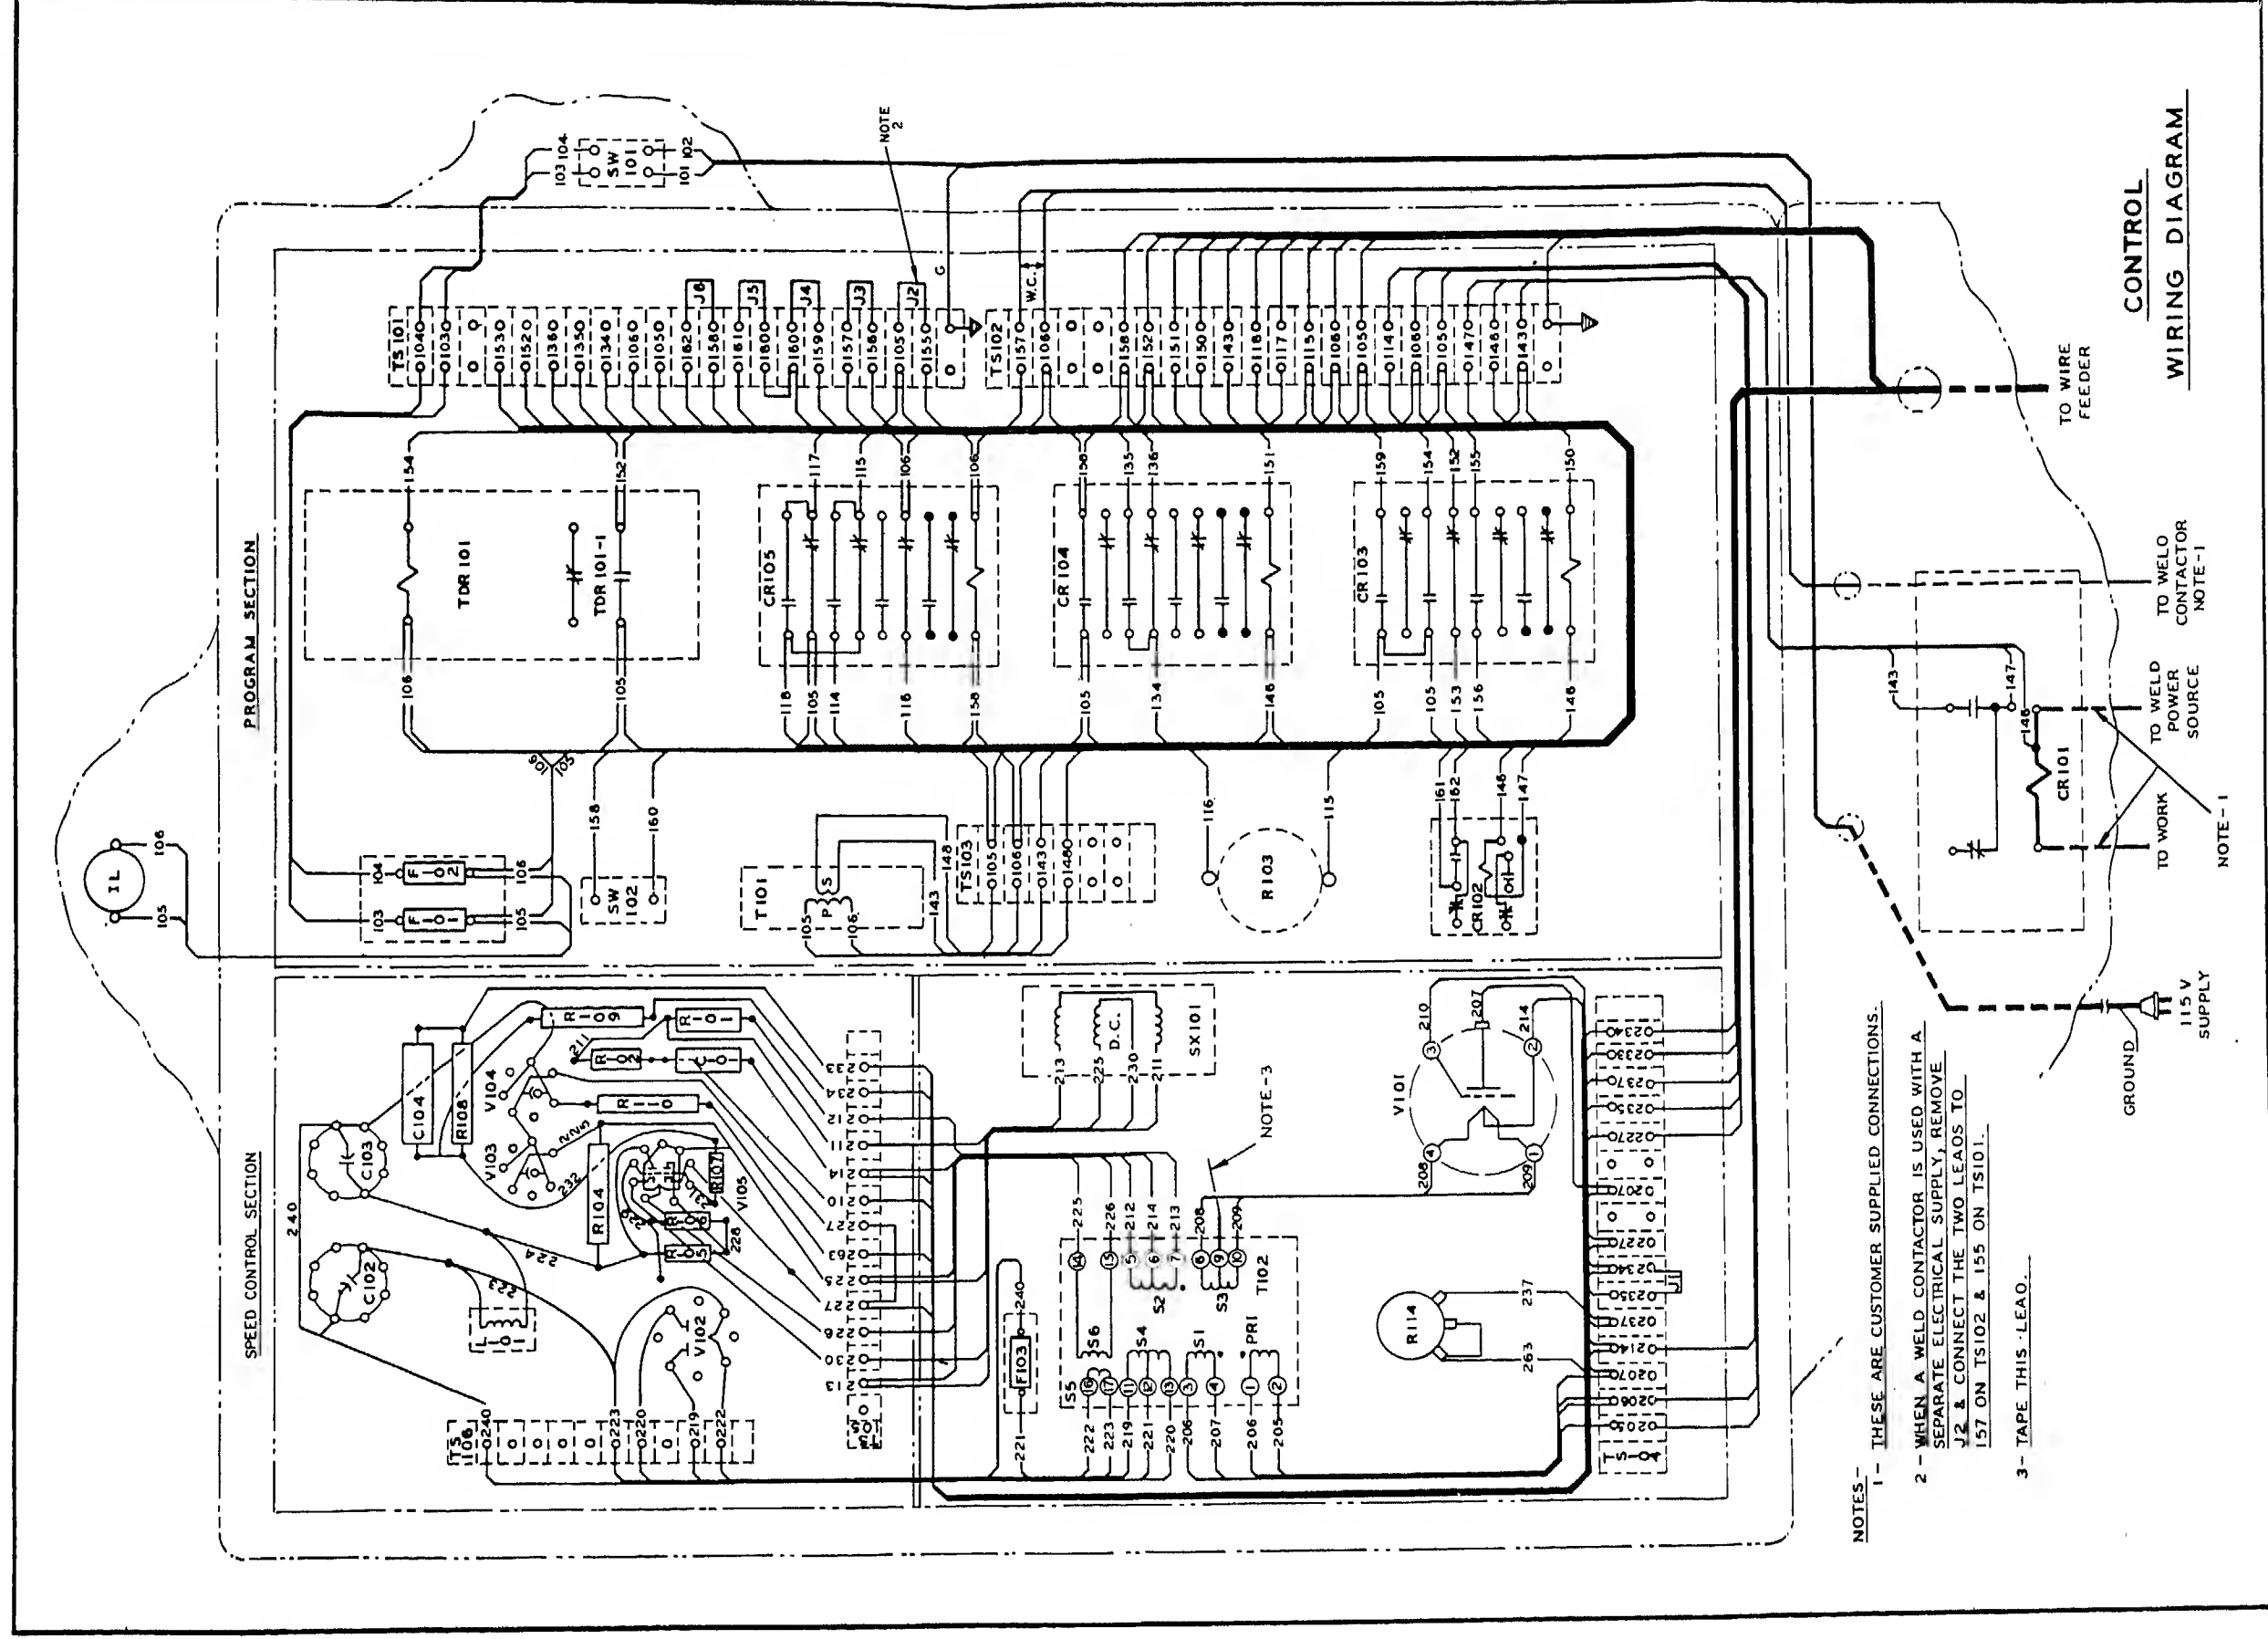

Figure 2. Wiring Diagram Control Panel \*
- (2) Refer to figure 2 for the wiring diagram control panel.